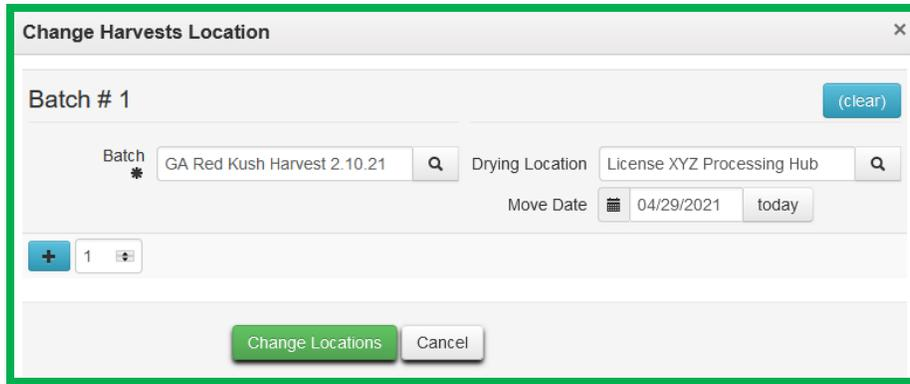

Figure 2: Changing Harvest Location
2. Identify the Harvest(s) that are planned to be transferred and select “Change Location”. Once selected, update the Location of the Harvest Batch to the newly created Location from Step 1 as shown in **Figure 2** below.